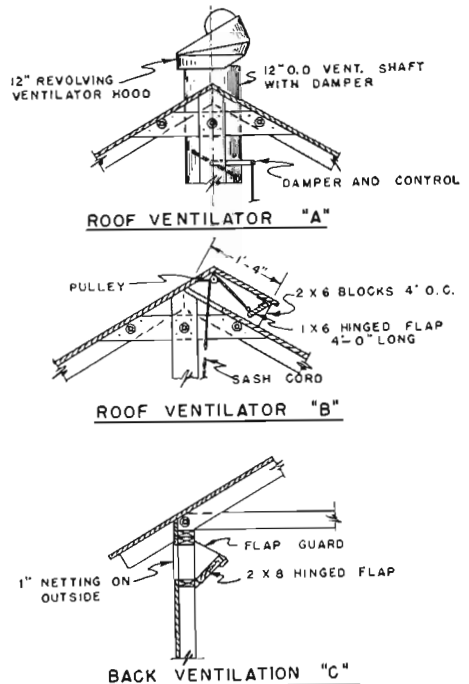

FIGURE 7. Natural ventilating devices. Roof and back type.
1. For buildings 20 feet or less in width, provide ventilator types 8d, e, or f for front of building and type 7c for rear of building. (See Figures 7 and 8.)
There are many satisfactory devices used in natural ventilation systems. (See Figures 7 and 8.) The important objectives are to supply the proper amount of air without draft. As a rule, vents which allow outside air to enter the building up high have a better chance of mixing with warm air before it settles on the birds. Thus drafts can be avoided. Deflectors over the roosts also prevent drafts.
generally will be found adequate. Adjustments can be made in the back with ventilator type 7c (Figure 7); those in the front by a window or a sliding panel, ventilator types 8d, e, or f (Figure 8). For buildings greater than 20 feet in width, either openings in the back should be increased in size or roof ventilators of type 7a or 7b should be used. The choice will depend largely upon roost arrangement. As a rule, if roosts are placed in the center of a house, openings can be increased in the rear to as much as 2 or 3 feet, similar to the front openings, types 8d, 8e, or 8f. If roosts are in the back, roof ventilation types 7a or 7b should be used.